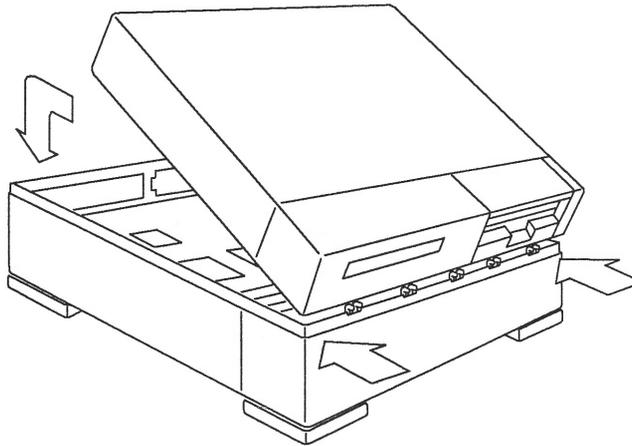

Figure 7-8 Closing the System Unit
5. Reconnect the top and the bottom of the unit. Refer to Figure 7-8.